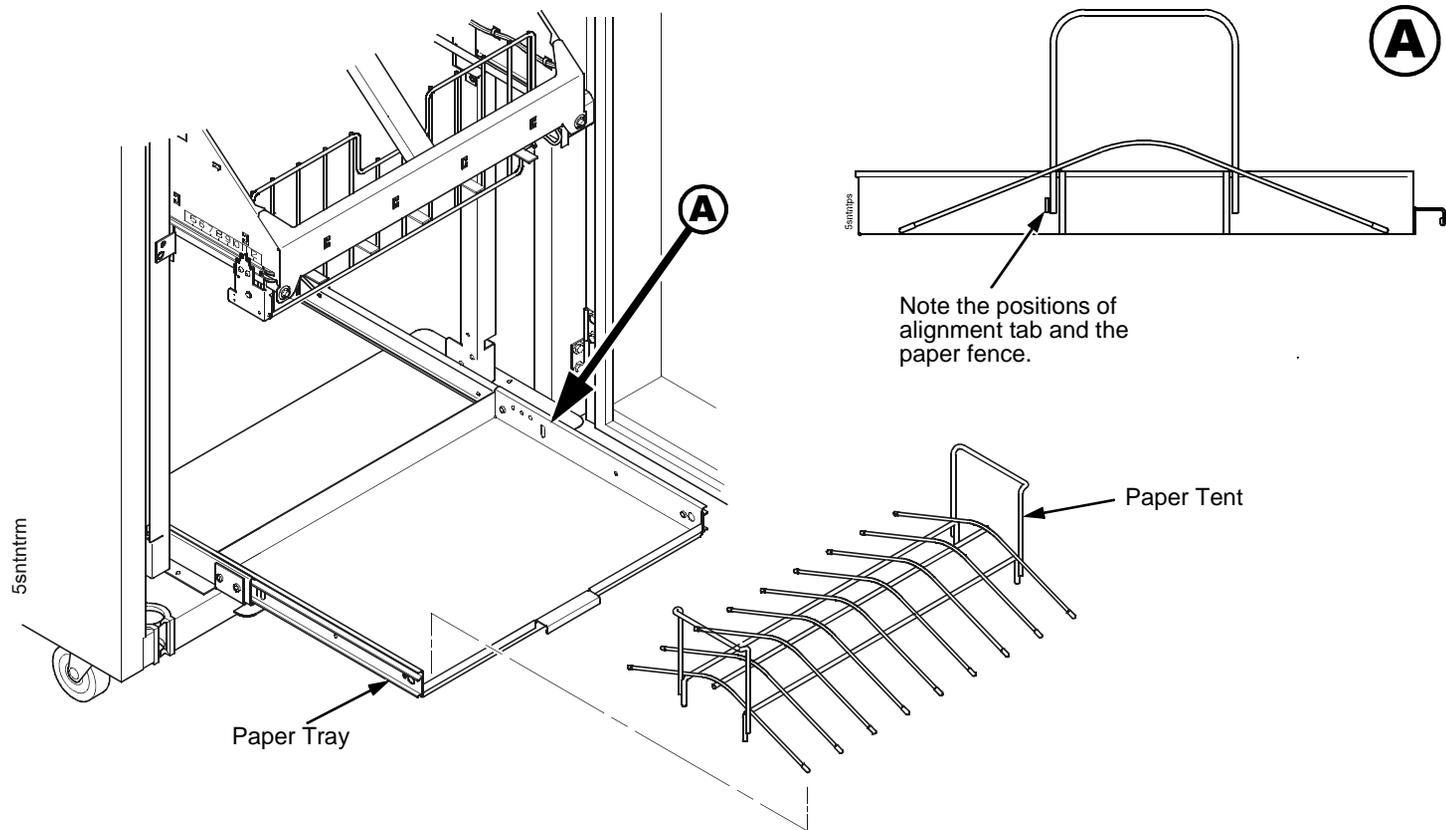

Figure 73. Positioning the Paper Tent
5. If the paper you will use is not wider than 15.5 inches (39.5 cm) install the wireform paper tent in the pull out paper tray. (Figure 73.) If the paper is wider than 15.5 inches (39.5 cm) leave the paper tent out of the printer.